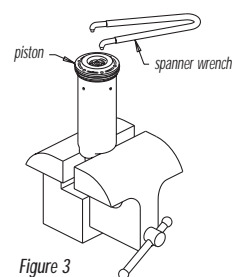
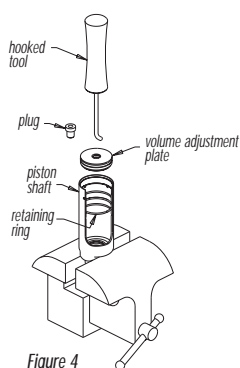

Figure 3
Figure 4
7. To remove the volume adjustment plate, clamp the piston shaft eyelet in the vice, and use a spanner wrench to unscrew (counterclockwise) and remove the piston (Figure 3). With the piston shaft still clamped in the vice, remove the white plug in the center of the volume adjustment plate. Insert the hooked tool into the plate's opening and carefully pull it upward being careful not to damage the plate. Work from side to side not allowing the plate to become jammed within the shaft (Figure 4).